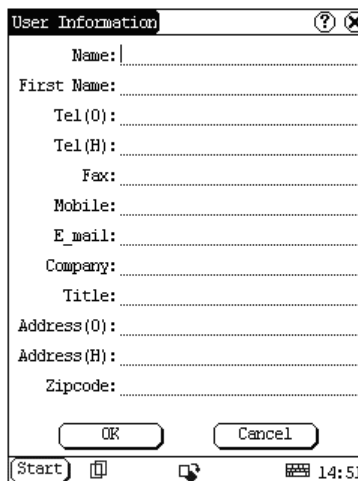

Fig 4-40
- 4) In the User Information interface, activate Soft Keyboard, and input the user information. (See Fig 4-40)